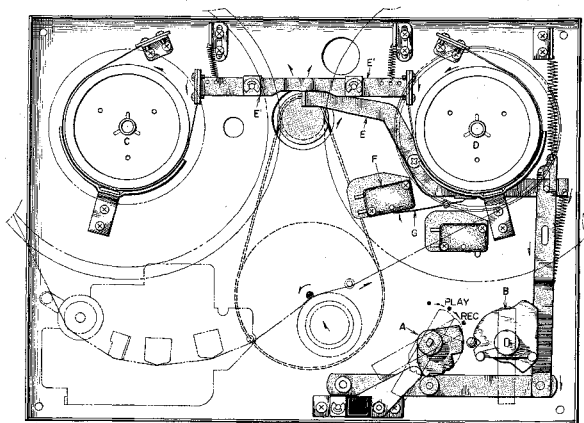

Fig. 9 FWD P.B./RECORDING REVERSE MODE
1. FORWARD PLAYBACK RECORDING MODE (Refer to Fig. 9)